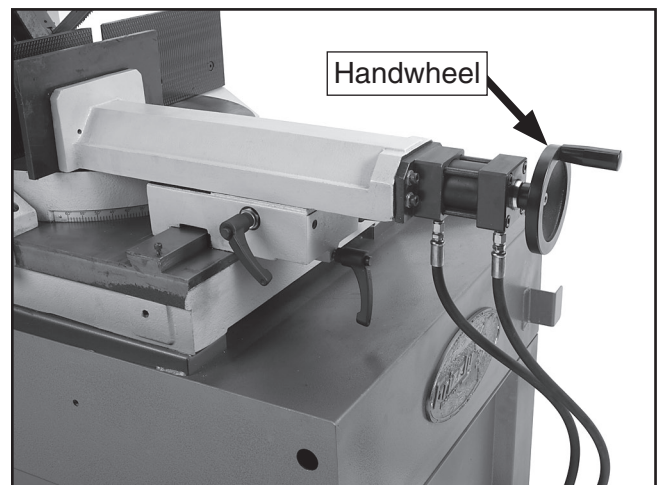

Figure 29. Vise options and controls.
4. Use the handwheel (**Figure 29**) to move the jaws to within 1/4" of the workpiece.